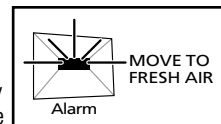

Figure 8
- The red light flashing once every 30 seconds, accompanied by the alarm “chirp”, indicates the batteries need to be replaced, or the unit has malfunctioned (see figure 8).